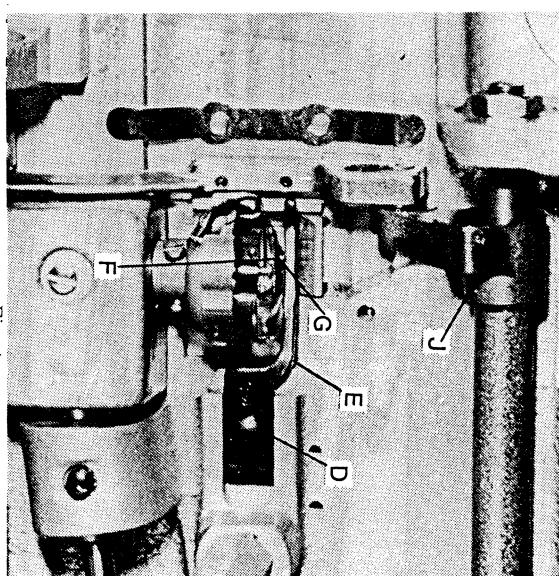

Fig. 4
TO ADJUST THE POSITION OF THE FEED DOG, LOOSEN SCREW "J" (FIG. 4)
1. PLACE THE BOBBIN (3) ON SPINDLE WINDER.
2. PASS THE THREAD THROUGH THE HOLE (4) OF THE BOBBIN WINDER THREAD GUIDE AND THROUGH THE TENSION DISCS (5) FROM THE REAR PULL THE END OF THE THREAD AND WIND IT AROUND THE EMPTY BOBBIN SEVEN OR EIGHT TIMES FROM THE BOTTOM UP AS SHOWN BY THE ARROW IN FIG. 4.
3. PUSH THE BOBBIN WINDER LEVER (1) DOWN UNTIL THE BOBBIN WINDER WHEEL (2) PASSES AGAINST THE DRIVE BELT.
6. YOU CAN EASILY ADJUST THE MAXIMUM QUANTITY OF THREAD TO BE WOUND UP ON THE BOBBIN BY ADJUSTING THE SCREW (7) WHICH CONTROLS LATCH (6).
7. IF THE THREAD DOES NOT WIND EVENLY ON THE BOBBIN, ADJUST THE POSITION OF THE BOBBIN WINDER THREAD GUIDE (4) BY MOVING IT TO THE RIGHT OR LEFT AFTER LOOSENING THE SCREW.
WHEN INSTALLING A NEW SEWING HOOK, HAVE THE THREAD GUARD AT THE BOTTOM. NOW TURN THE BOBBIN CASE HOLDER UNTIL THE NOTCH "F" IS AT THE TOP. REPLACE HOOK RETAINER "E" WATCHING THAT THE PROJECTION "G", NEAR ITS END (FIG. 4) ENTERS NOTCH "F" IN THE BOBBIN CASE HOLDER. FASTEN HOOK RETAINER TO THE UNDERSIDE OF THE BED BY MEANS OF ITS CREW. REPLACE THE NEEDLE AND TIME THE SEWING HOOK AS DESCRIBED IN THE PRECEDING PARAGRAPH. RE-INSTALL BOBBIN CASE, THROAT PLATE AND SLIDE PLATE.
REMOVE THE NEEDLE, SLIDE PLATE AND BOBBIN CASE. TAKE OUT SCREW "D" (FIG. 4) AND REMOVE HOOK RETAINER "E" (FIG. 4). LOOSEN THE THREE SET SCREWS IN THE HUB. TURN HANDWHEEL UNTIL THE THREAD GUARD (WIDEST PART) OF THE HOOK IS AT THE BOTTOM. THEN REMOVE SEWING HOOK FROM ITS SHAFT (FIG. 4).